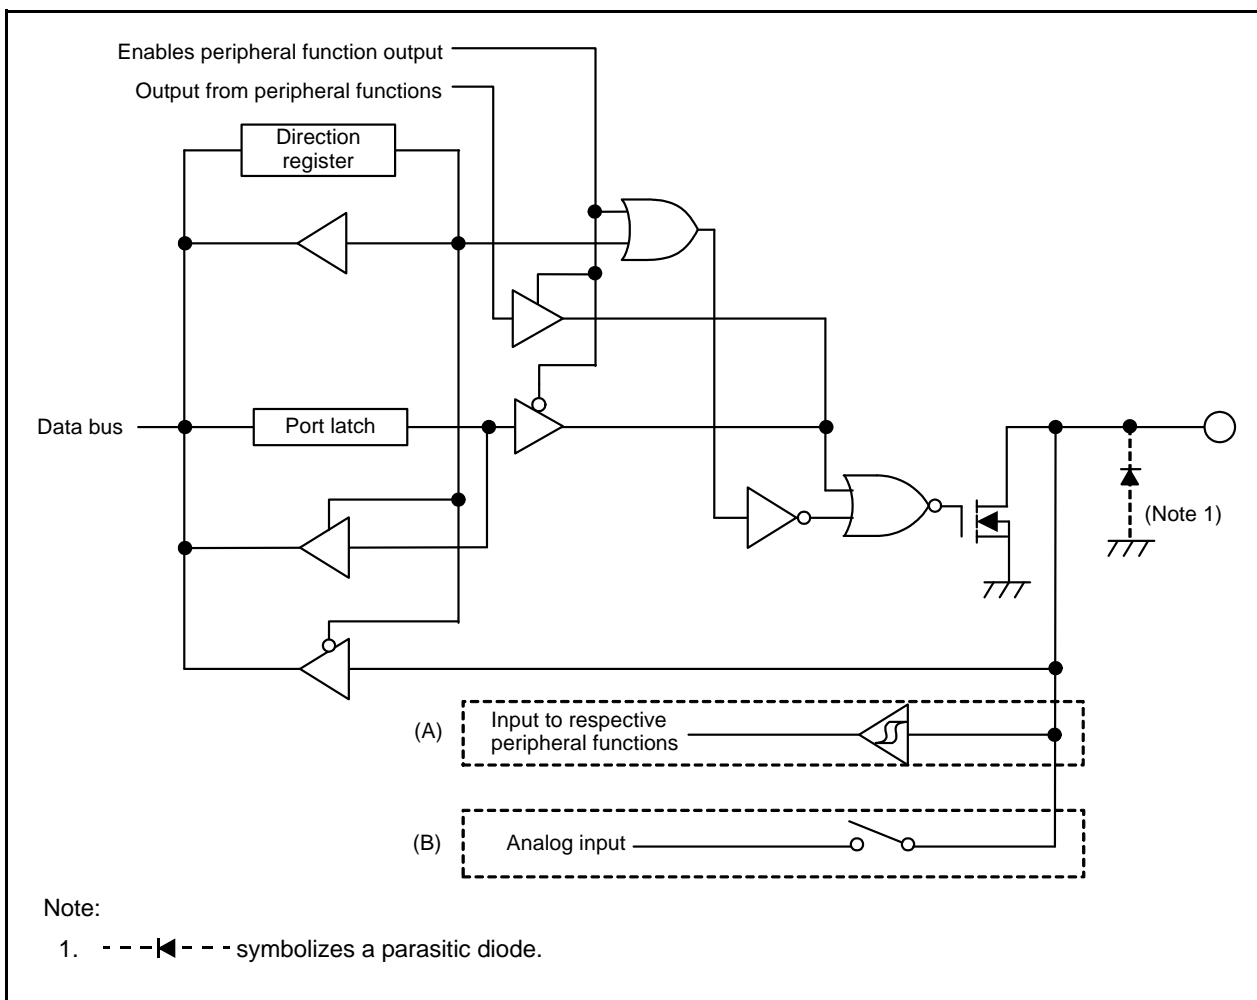

Figure 13.5 I/O Ports (N-channel Open Drain Output)
Peripheral function input (A) in Figure 13.5	Analog input (B) in Figure 13.5